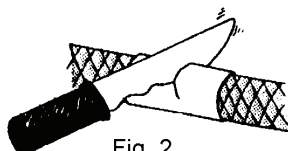

Fig. 2
2. Cut with a sharp knife in the middle of tape. (see fig. 2). Take care not to pull rope sideways.